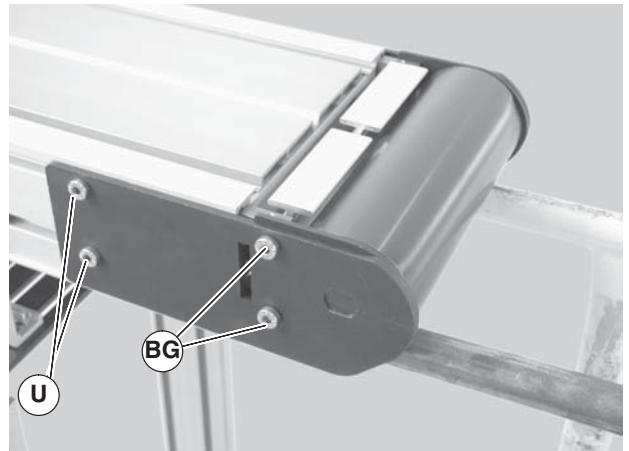

Figure 45
2. On one side of conveyor, loosen the two (2) back fastening screws (Figure 45, item U) and remove two (2) front fastening screws (BG).